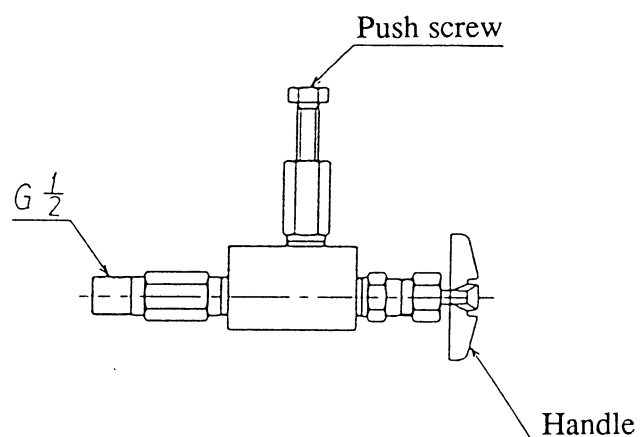

Figure 2-2 Lubricator
- (4) If a valve has a lubricator, check that it is filled with grease. (Figure 2-2)